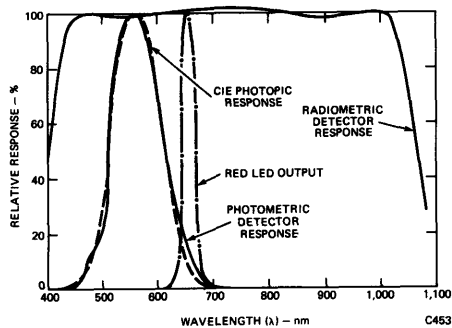

Fig. 6. Responses of Two Detectors to the Output of a Visible Red LED
**Detectors**—A good detector approximates the CIE curve area with 2%. However, it is important to note that even when the detector is within 2% of perfect, it is still possible to produce mismatches at specific wavelengths which can cause the percentage of error to increase considerably. Therefore, in order to determine the margin of possible error, it is imperative that one know the detector's spectral response within the wavelength range of the device to be measured. To illustrate the problem of spectral mismatch, the reader is referred to Figure 6 where we show the responses of two detectors, a radiometric detector and a photometric detector, to the output of a visible red LED. The response of the radiometric detector is about 3% high. Notice, however, that the photometric detector, which provides a very close match to the CIE curve, produces a +25% error.2